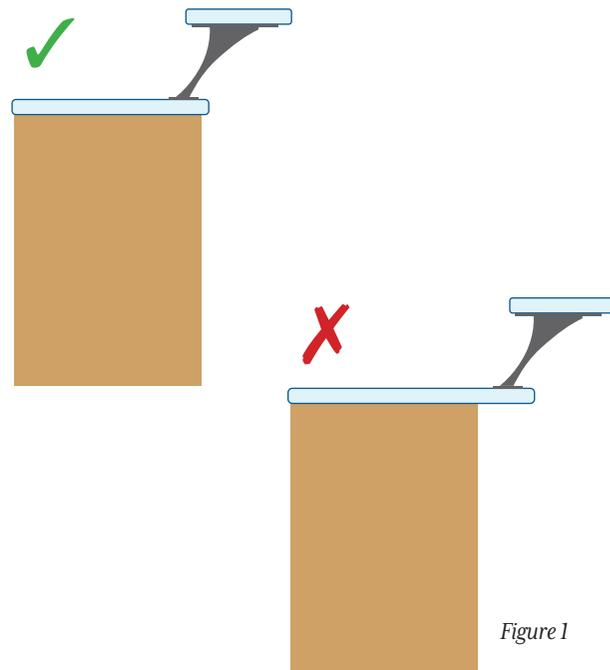

Figure 1
1. Measure & determine precise location for drill holes for each bracket. We recommend spacing brackets between 24" & 30" apart. The maximum span allowed between brackets is 30". Each bracket should be mounted on top of the primary support structure. **Do not attempt to mount brackets on overhangs,** (see Figure 1).